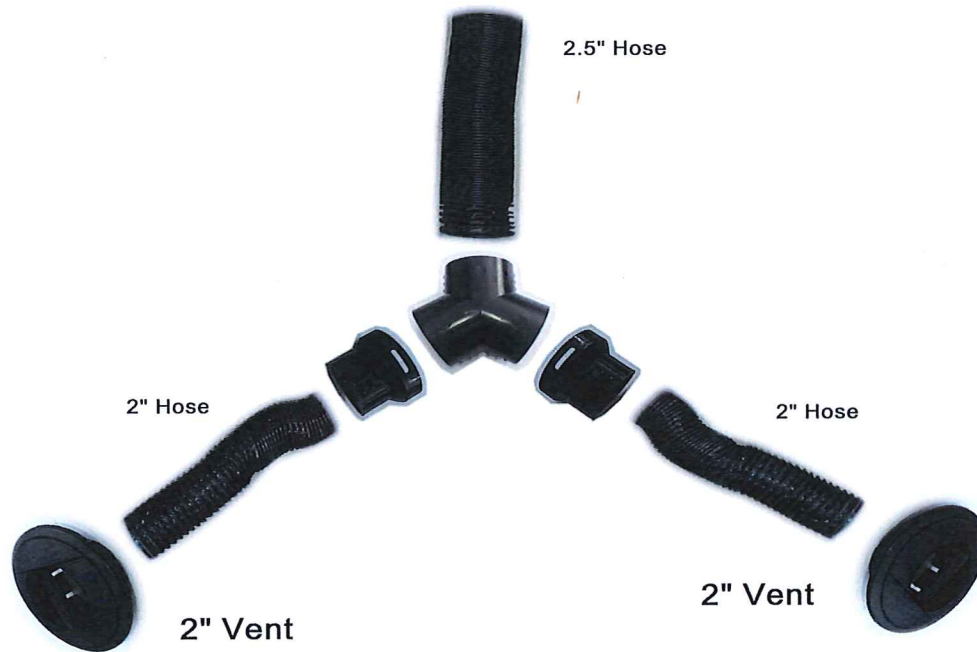

Figure 8
10. Run each Duct Hose out to the vent hole and pass through the hole in dash and attach to vent inlet using Figure 8 as a guide.